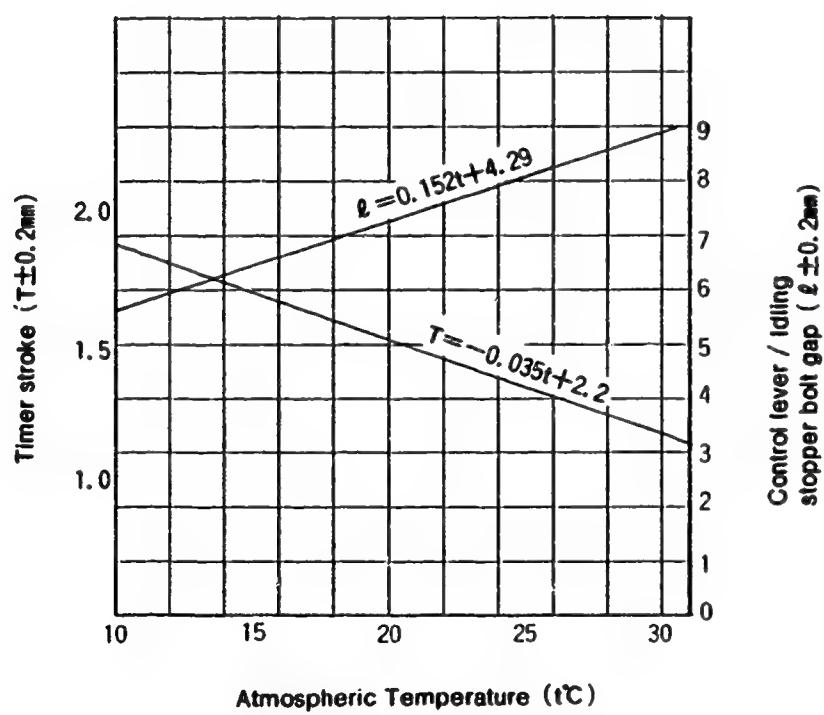

Fig. 2
① Using the graph (Fig 2) , determine the Timer Stroke according to the atmospheric temperature at the time of adjustment.
② Adjust using the Timer Stroke adjusting bolt so that the Timer Stroke corresponds to the value determined in note ① above.
① Insert a block gauge (thickness gauge) of thickness 7.6 ± 1 in the gap between the control lever and the idling stopper bolt. (control lever angle : $12^\circ \pm 2^\circ$)
② With the control lever positioned as described in ① above, adjust the plate position so that the control lever plate and the dash pot push rod are in contact.
- ① Insert a block gauge of 5.3 \pm 0.05 mm thickness in the gap between the control lever and the idling stopper bolt.
- ② From Fig 2 determine the dimension of the gap between the idling lever pin and the control lever according to the atmospheric temperature at the time of adjustment.
- ③ Adjust using the fast idle adjusting screw so that the gap corresponds to the value determined in note 2) ② above.